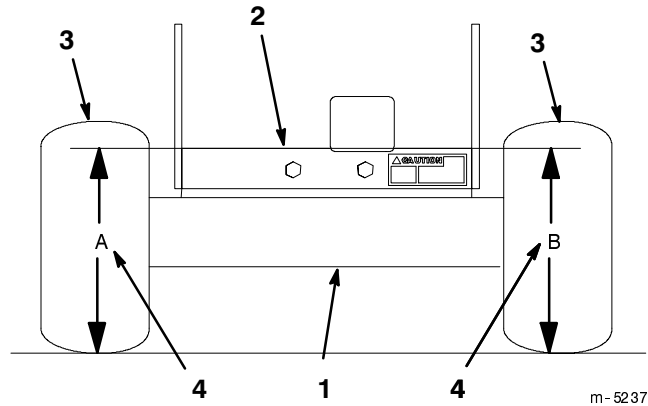

Figure 49
3. Measure engine deck height at location "A" (Fig. 49).
4. Measure engine deck height at location "B" (Fig. 49).